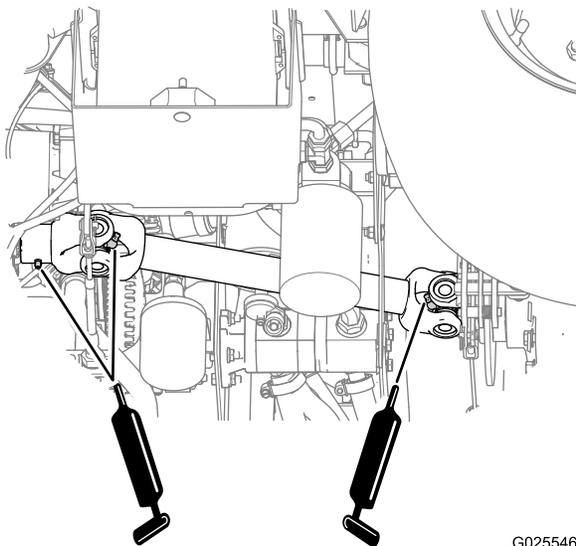

Figure 51
- Drive shaft U-joints (2); refer to Figure 51
- Sliding yolk (1); refer to Figure 51